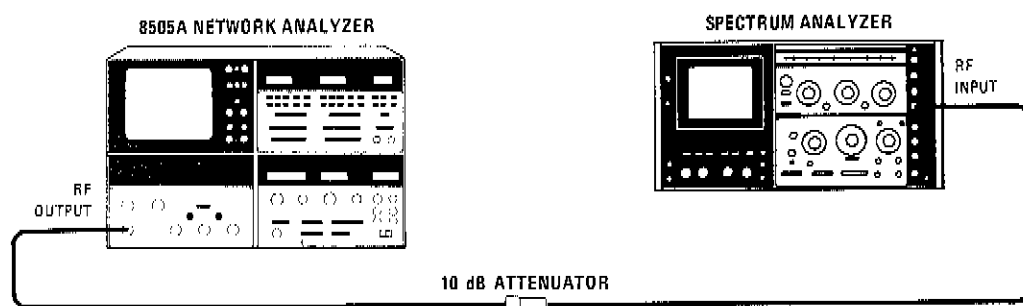

Figure A4-23. Harmonics and Spurious Signal Test Setup
- b. Connect equipment as shown in Figure A4-23. Allow equipment to warm up for a minimum of one hour.